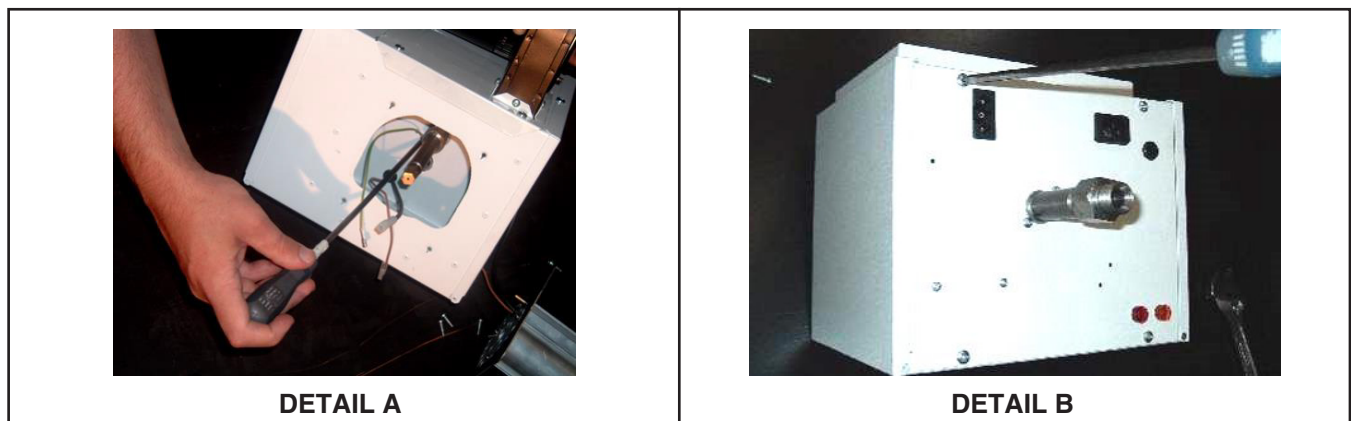

Figure 28. Combination Gas Valve Removal—Model VPS
- (1) Disconnect silicone tubes from pressure switch.
- (2) Remove and save two screws that secure front of gas valve (see Figure 28, DETAIL A).
- (3) Remove and save four screws that secure rear panel on burner cabinet (see Figure 28, DETAIL B).
- (4) Mark and disconnect gas valve wiring connections.
- (5) Remove jet carrier and gas inlet from existing gas valve. Install jet carrier and gas inlet on replacement valve.
- (6) Install replacement gas valve and reconnect valve wiring.
- (7) Re-install rear panel on burner cabinet and secure using four existing screws.
- (8) Re-install two existing screws that secure front of gas valve.
- (9) Re-install silicone tube on pressure switch.